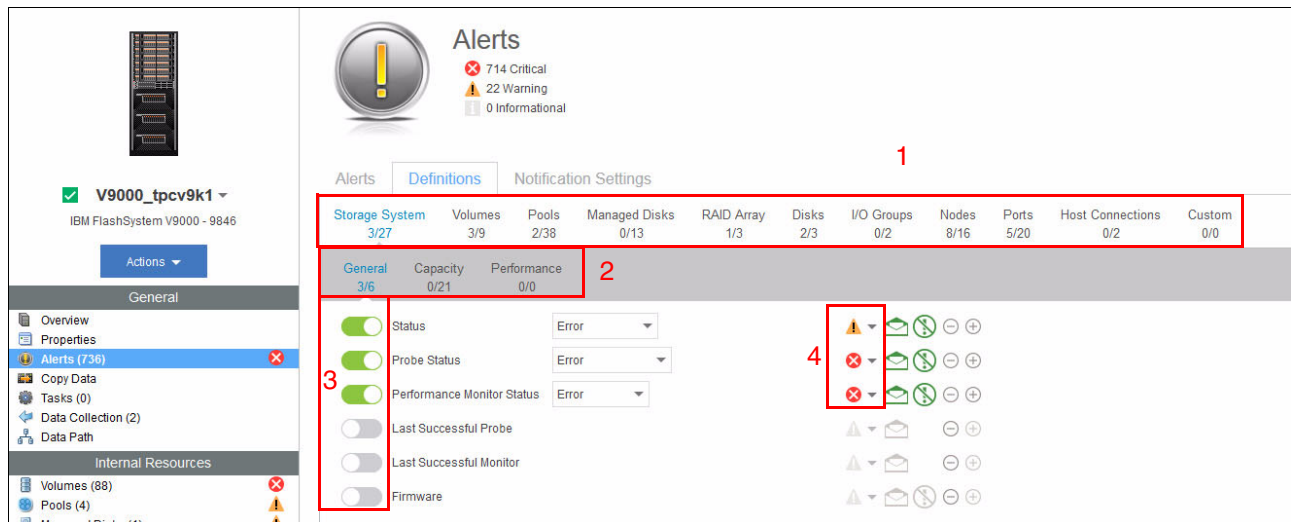

Figure 3-1 IBM Spectrum Control Alert Definition window
Refer to Figure 3-1. Alerts and thresholds can be set up for each device, individually on the device itself, or on its internal resources (1). Alerts can be set on general conditions, and thresholds can be defined for capacity and performance metrics (2). Alerts can be enabled and disabled by using the switch icon (3). The severity of alerts can be adjusted (4).